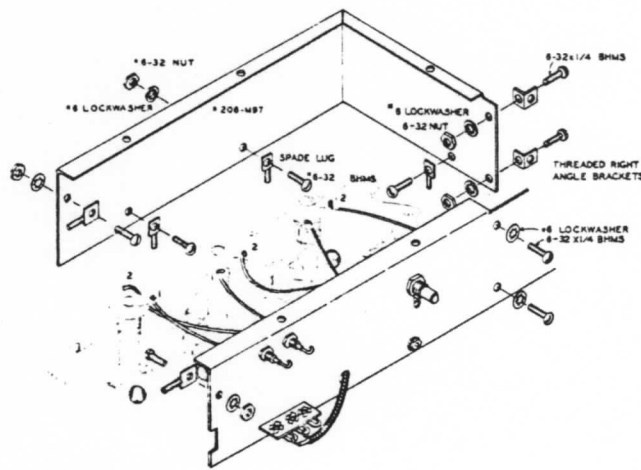

Figure 10
- (✓) Locate the right angle VFO shield (#206-M97), and refer to Figure 10. Mount the three spade lugs along the edge away from the flange; one at the leading edge and the two right angle brackets on the opposite vertical side. Use 6-32 x 1/4" BHMS and 6-32 nuts. Use #6 lockwashers under all nuts. Slip the shield into position by tilting it toward the rear of the top plate and inserting the rear spade lug first, then the two along the side through their respective top plate holes. Fasten with 6-32 nuts and #6 lockwashers from the chassis top. Secure the shield to the chassis center partition with two 6-32 x 1/4" BHMS and #6 lockwashers through the center partition and into the threaded right angle brackets. Tighten all mounting hardware securely.